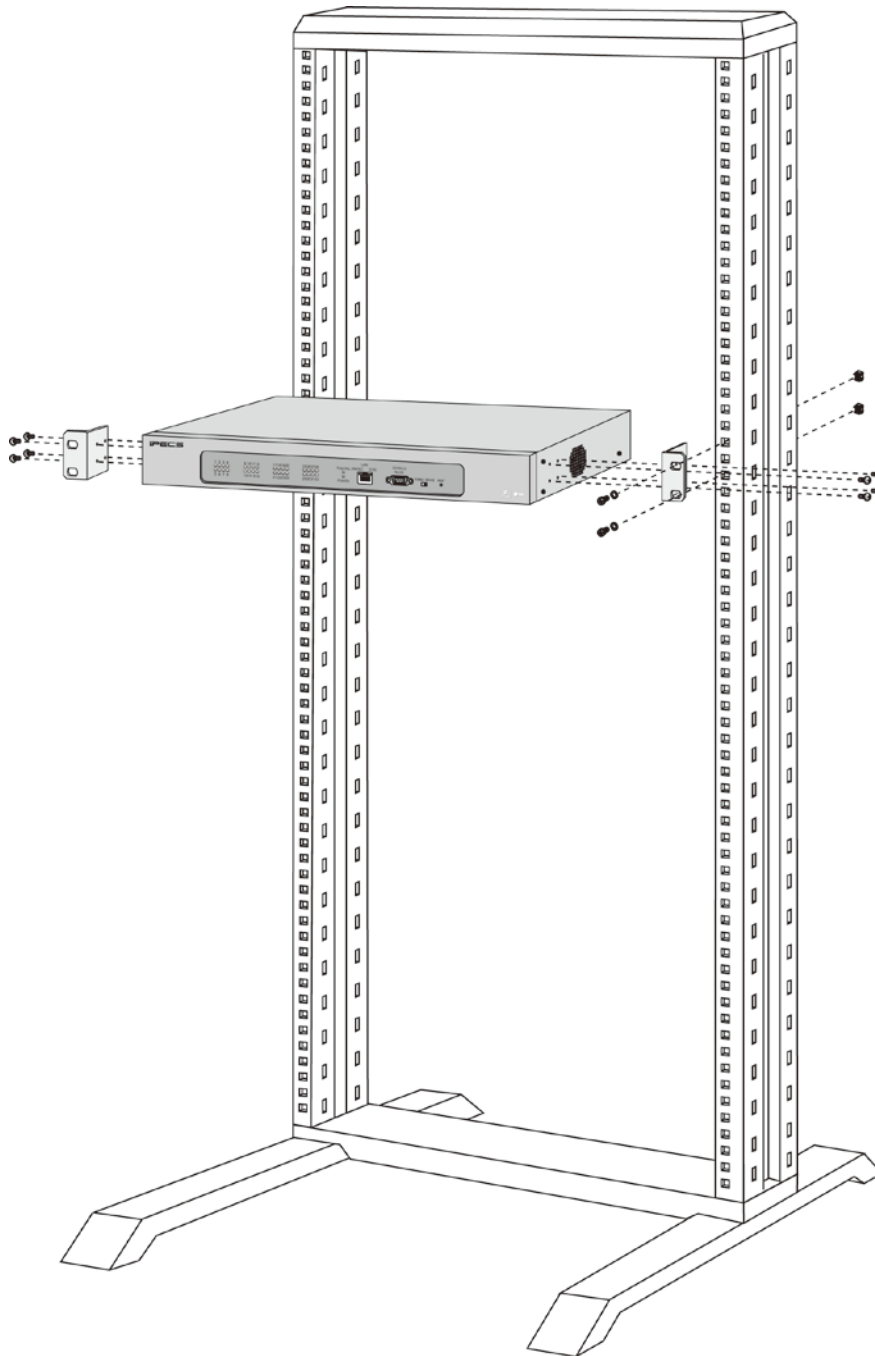

Figure 4.5.11-1 SLTM32 Rack Mounting Installation
- Mount the left and right mounting brackets to the SLTM32 module using the eight (8) machine screws provided as shown in Figure 4.5.11-1.
- Mount the Module with the four (4) machine screws, nuts and washers as shown in Figure 4.5.11-1.